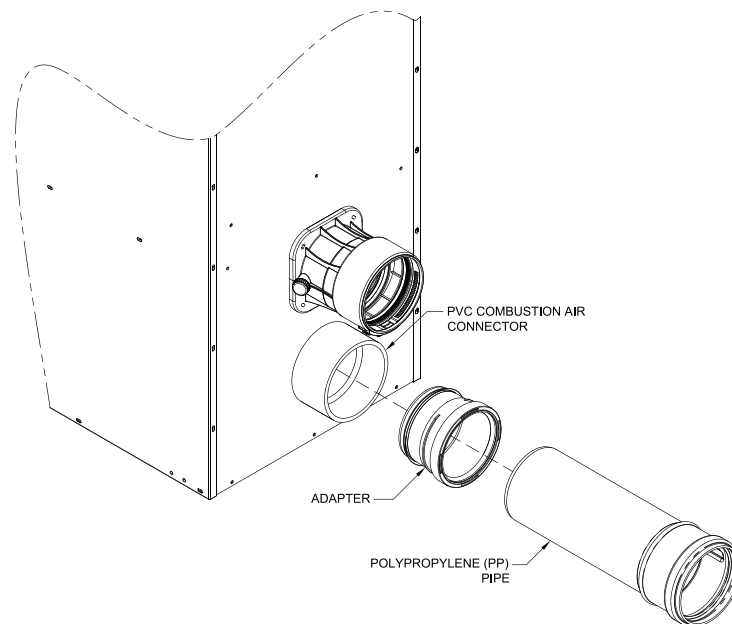

Figure 18: Field Installation of Polypropylene Combustion Air Adapter
- b. Combustion Air Connector (see Figure 18)